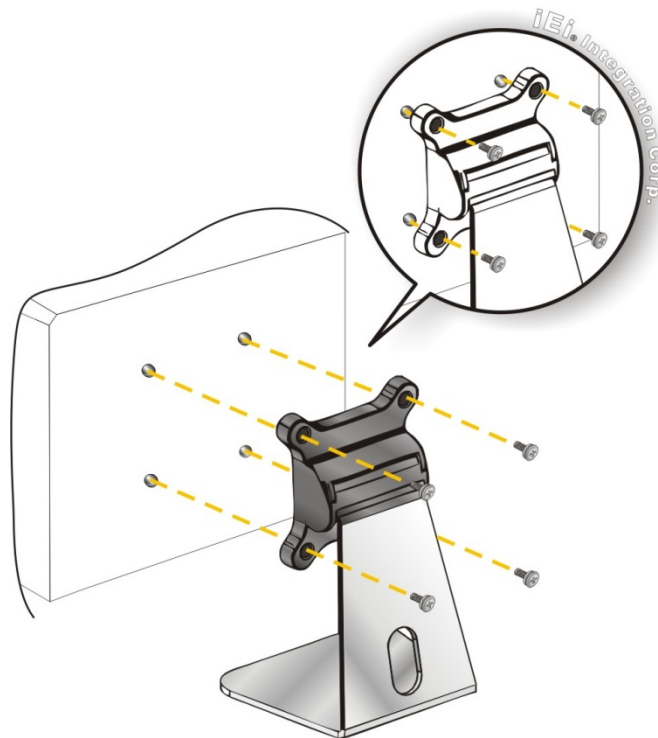

Figure 3-11: Stand Mounting
- Step 2:** Secure the system to the stand with the supplied retention screws (**Figure 3-11**).